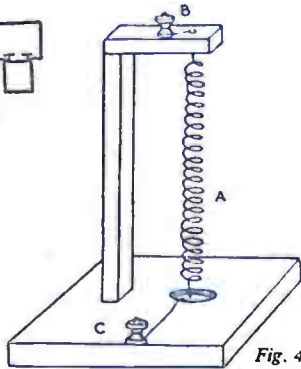

Fig. 4
parallel conductors carrying an electric current in the same direction attract each other is shown in Fig. 4. The spiral (A) is made by wrapping about a yard of No. 22 D.C.C. wire round a piece of 1/4in. dowelling. One end of the spiral is connected to the terminal (B), and the other end just touches the surface of a little mercury placed in a small hole made in